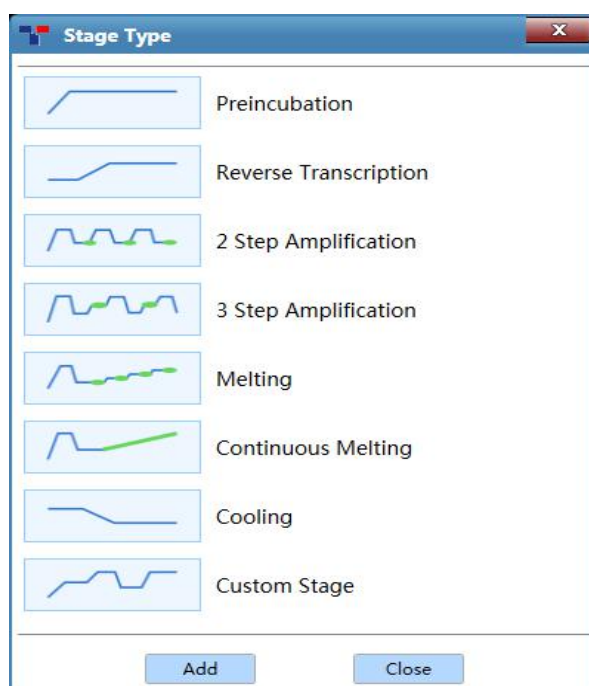

Figure D-5.4 Stage Type window
► If users add a new stage, the application software will automatically pop up a stage type window, as shown in figure D-5.4.